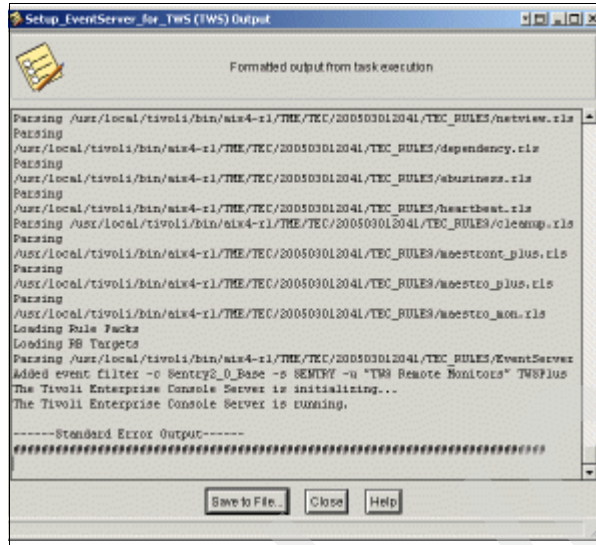

Figure 8-54 Setup_EventServer_for_TWS (TWS) Output window
8. Select **Set and Close**. The Setup_EventServer_for_TWS (TWS) Output window opens as shown in Figure 8-54 on page 377.